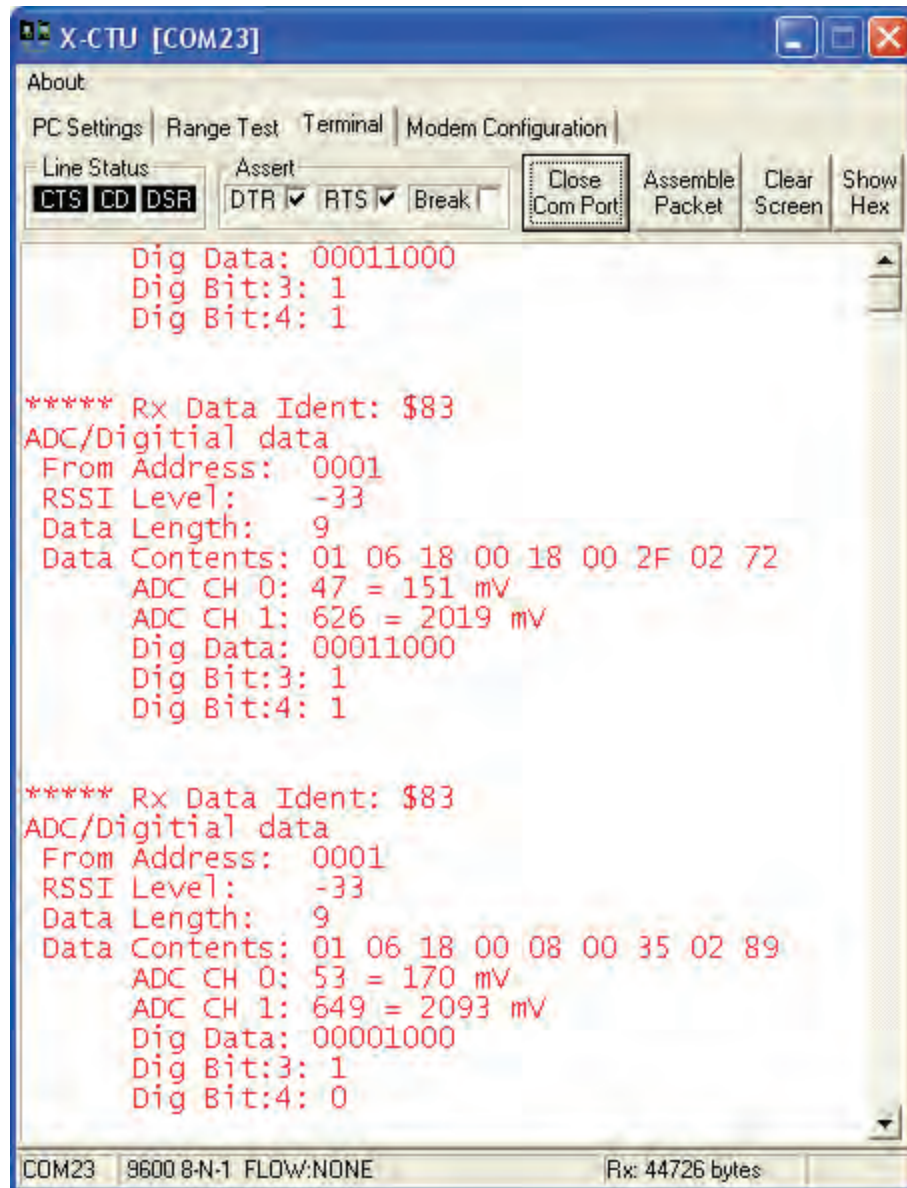
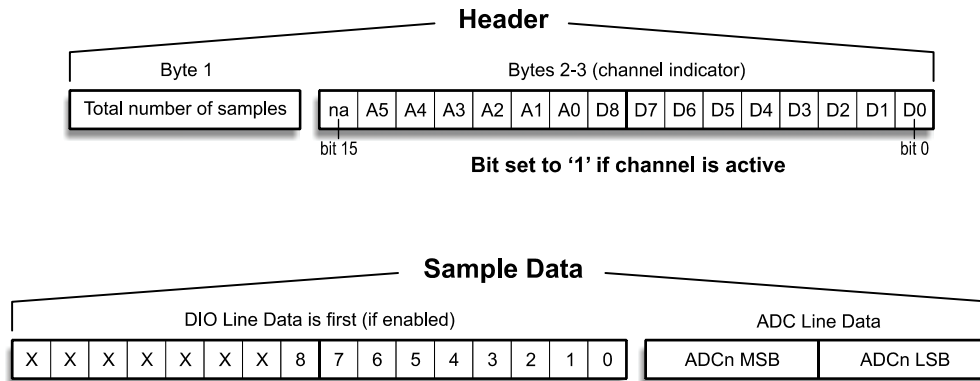

Figure 6-8: Analog and Digital Testing Results
Figure 6-9: ADC and Digital Data Format
- I/O Setting **D0** to ADC (2) (to read analog input)
- I/O Setting **D1** to ADC (2) (to read analog input)
- I/O Setting **D3** to DI (3) (to read digital input)
- I/O Setting **D4** to DI (3) (to read digital input)
- ✓ Information similar to Figure 6-8 should be displayed.
Figure 6-8 shows the data sent from the Remote XBee module. The frame identification indicates it is analog and digital frame type (\$83) from address 0001. The RSSI level is displayed as well as the raw data contents in hexadecimal. Any active channel data is shown: the analog inputs on D0 and D1 as both decimal and converted to millivolts based on the 3.3 V reference. The full digital data is shown and the active digital inputs on D3 and D4. Note that per our hardware, we only have an analog input on D1 and a digital input on D4. The other data is sent simply for testing reading the data. From the XBee manual, the data sent for the frame is constructed as shown as in Figure 6-9.